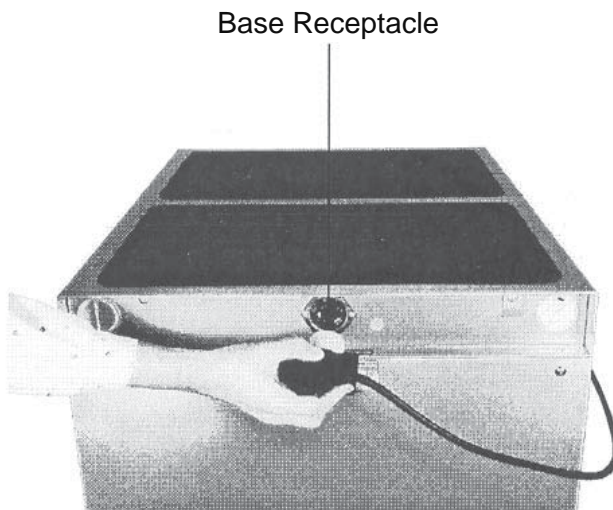

FIGURE 1
**HOW TO INSTALL UNIT: (Figure 1)**